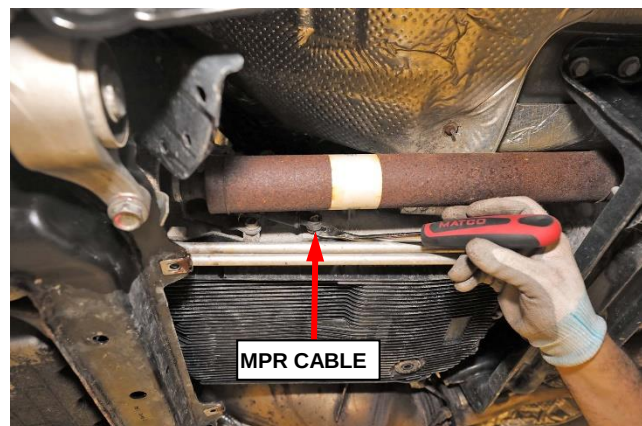

Figure 27 – MPR Cable
53. Disconnect the MPR cable from the lever, and set it aside (Figure 27).